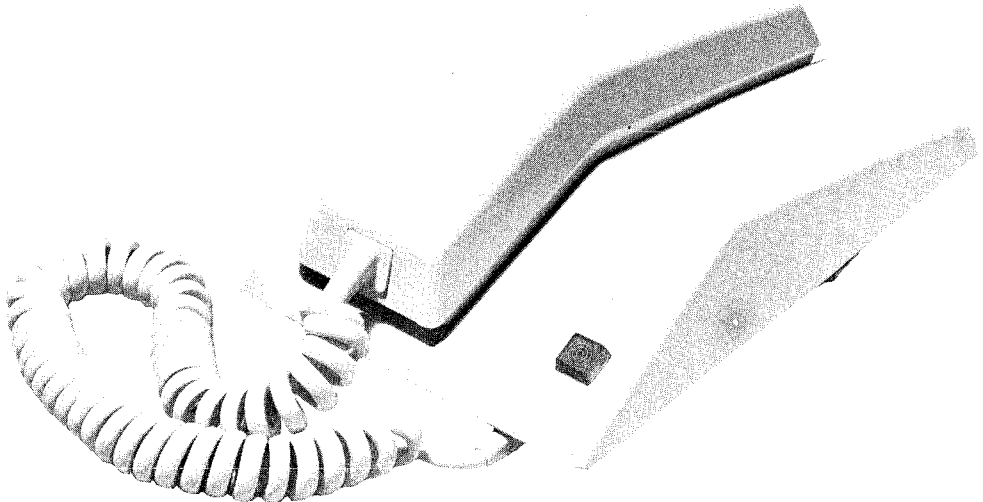

Fig. 1 — Contempra — Message Waiting QSK 100 BX
- Add Fig. 1.
2.01 The QSK 100 BX Telephone Set is equipped with a message waiting lamp (Fig. 1). The red message waiting lamp cap is factory molded into the housing of the telephone set. The lamp protrudes through the housing into the lamp cap.